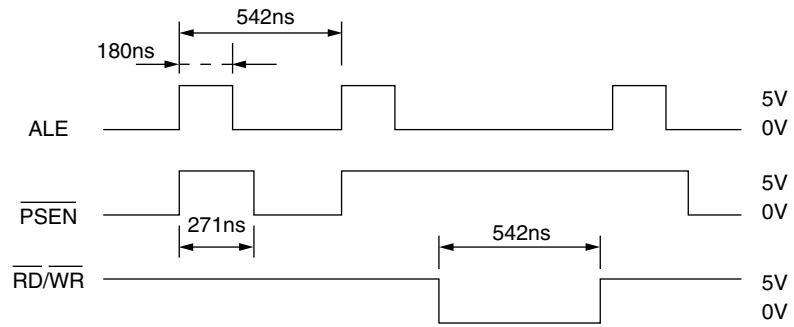

Figure B-6
• Yes Are ALE,  $\overline{\text{PSEN}}$ ,  $\overline{\text{RD}}$ ,  $\overline{\text{WR}}$ , signals as specified in Figure B-6?